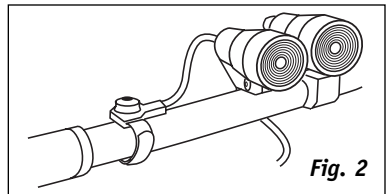

Fig. 2
6. Mount the Remote switch on the handlebar in a location that can be easily reached from your normal hand position. Ideally it should be placed such that it can be switched with the thumb while keeping the fingers near the brake lever. Secure the Velcro strap of the remote switch around the bar (see Figure 2).